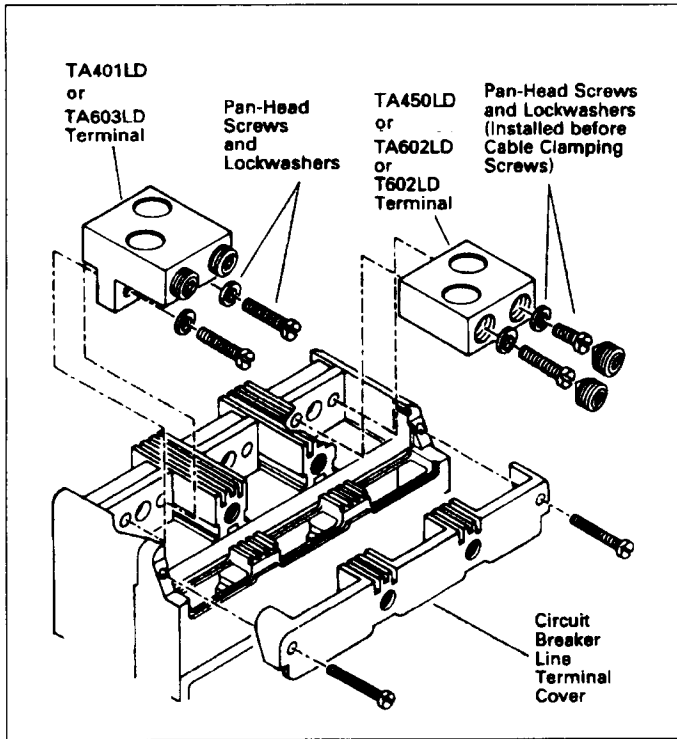

Fig. 2-1. Terminal Installation
- 2-2. If not already installed, mount wire connecting terminals as shown in Fig. 2-1. Secure the terminals to the circuit breaker using two pan head slotted screws and lockwashers. Torque to 6 to 8 lb.-ft. (8.14 to 10.85 N.m). With the circuit breaker mounted and before the conductors are installed and conductor clamping screws inserted, the terminal mounting screws may be checked for correct torque.